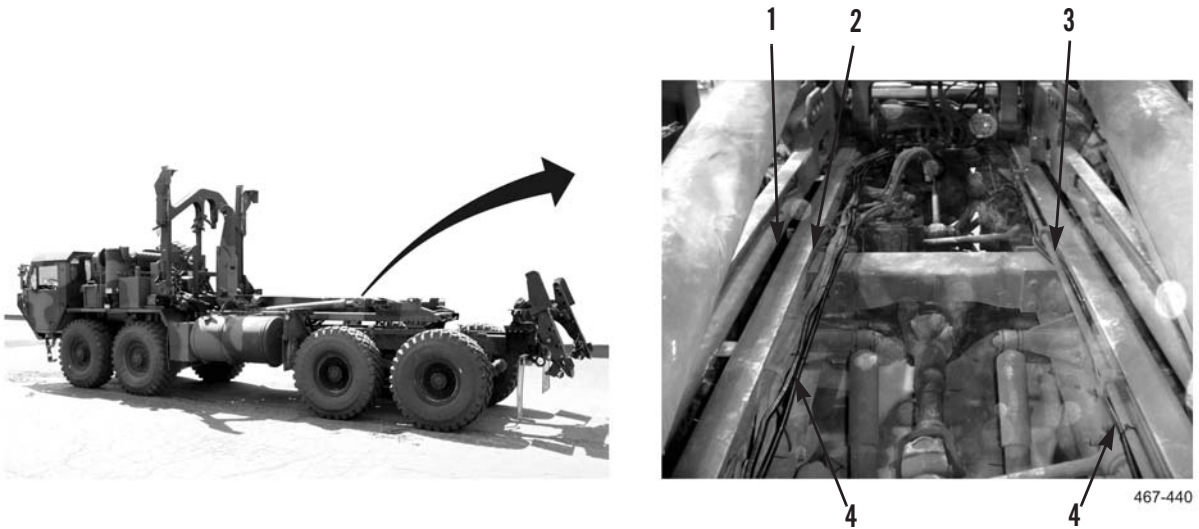

Figure 5. Wiring Harnesses Removal.
3. Along right and left side of frame (Figure 5, Item 1), remove and discard tiedown straps (Figure 5, Item 4) as required.
4. Remove twistlock sensor harnesses (Figure 5, Item 2) and middle frame and hook arm sensor harnesses (Figure 5, Item 3) from frame (Figure 5, Item 1).